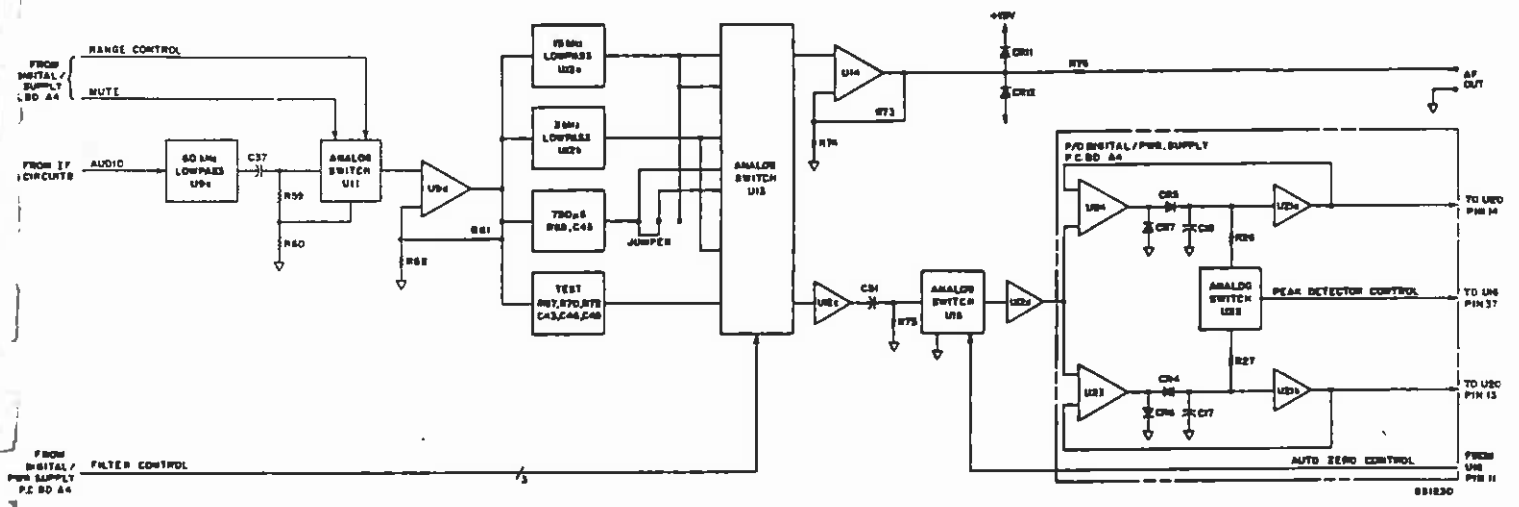

Figure 3-6. A.F. Circuits: Detailed Block Diagram
d. A.F. Circuits. The audio circuits process the recovered modulation signal supplied from the a.m. or the f.m. detector circuits--as determined by the front-panel FUNCTION switch. The recovered signal is filtered and converted to a d.c. level, which is then measured; the result is presented on the front-panel LED display. Refer to Figure 3-6.